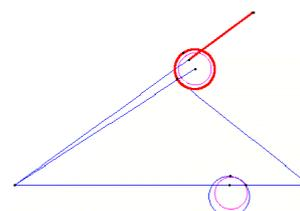

Figure 12. Intersecting lines
- 7 . Then continue selecting to make an intersection between the upper circle and the farthest segment of the line that was rotated 36 degrees (see Figure 12).